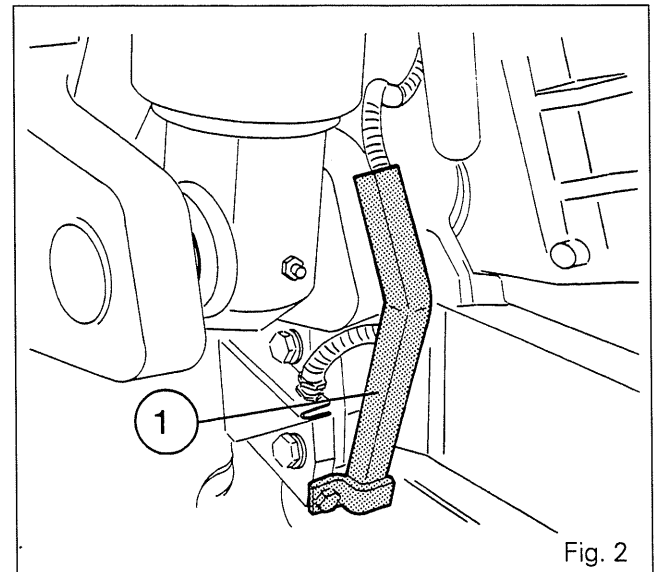
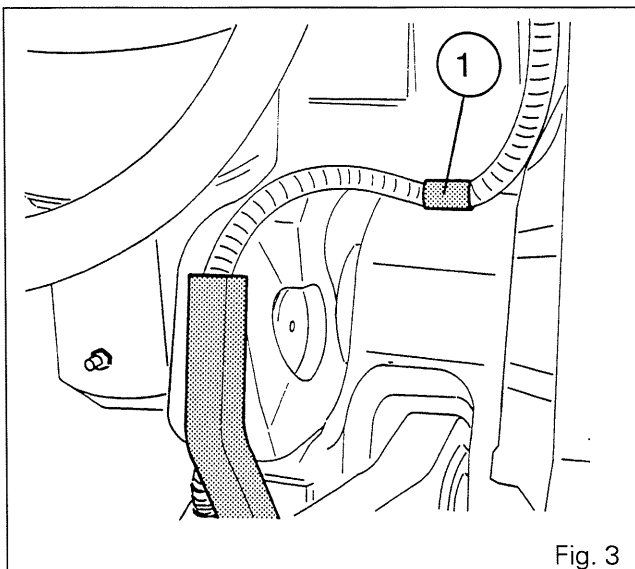

Fig. 2
Fig. 3
7. Remove the shield **(1)** (Fig. 2). Extract the draft sensor harness from the fastener **(1)** (Fig. 3) and separate it from the trumpet housing.
25. Position the draft sensor harness in its fastener (1) (Fig. 3). Fit the shield (1) (Fig. 2).